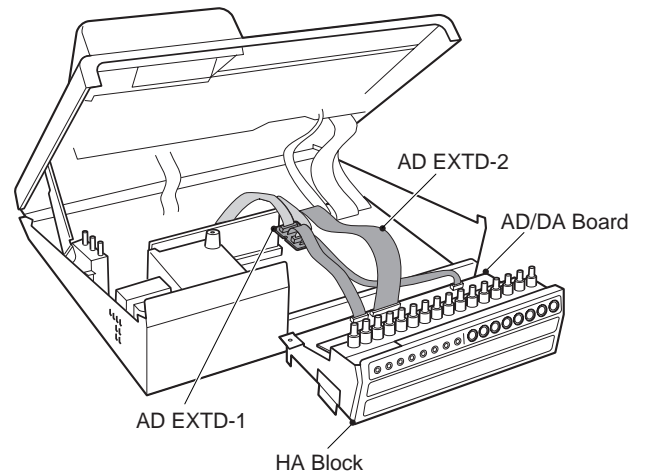

Fig. 2-4
- Referring to Fig. 2-4, disconnect three Cables from the Connectors CN33, CN52 and CN 53 of the AD/DA Board.